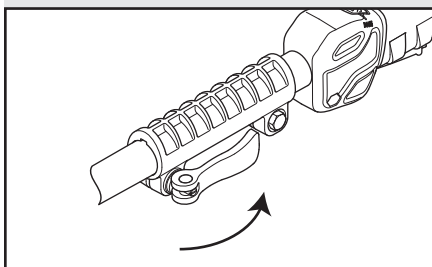

Fig. 2
3. When the blower attachment shaft is fully inserted into the locking collar, push the locking lever back toward the locking collar to lock the assembly together (Fig 2).